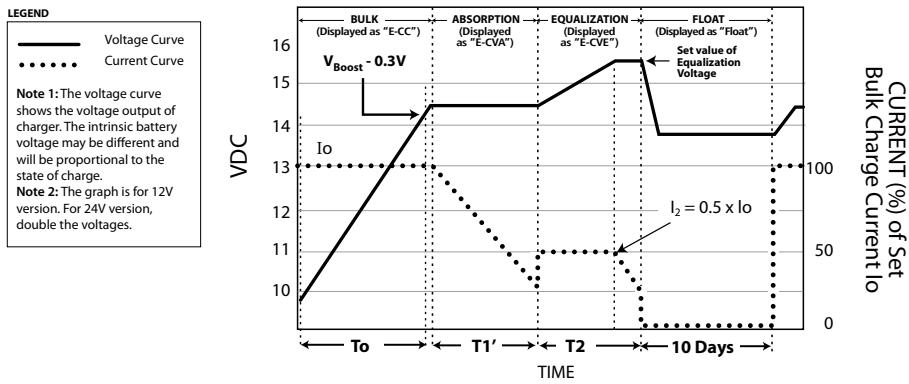

Fig 5.2 Charging Curve for 4 Stage Charging in Equalization Mode
4 Stage Charging Algorithm is used in the Equalization Mode. Equalization Mode is selected using optional Remote Control EVO-RC (see Appendix A). This mode is used only for Flooded or Wet Cell batteries. The 4 stages will be - Bulk, Absorption, Equalization and Float. For details, see Section 5.7 and Charging Curves at Fig 5.2. Equalization Mode is desirable for the proper health of Wet Cell Batteries. Equalization voltage is programmable. Equalization current and Equalization time are computed automatically. Please see Table 5.1 for details.
Fig 5.2 shows the voltage and current curves during the 4 stages of charging in this mode.
5.8 DETAILS OF EQUALIZATION MODE CHARGING CYCLE (Fig 5.2)